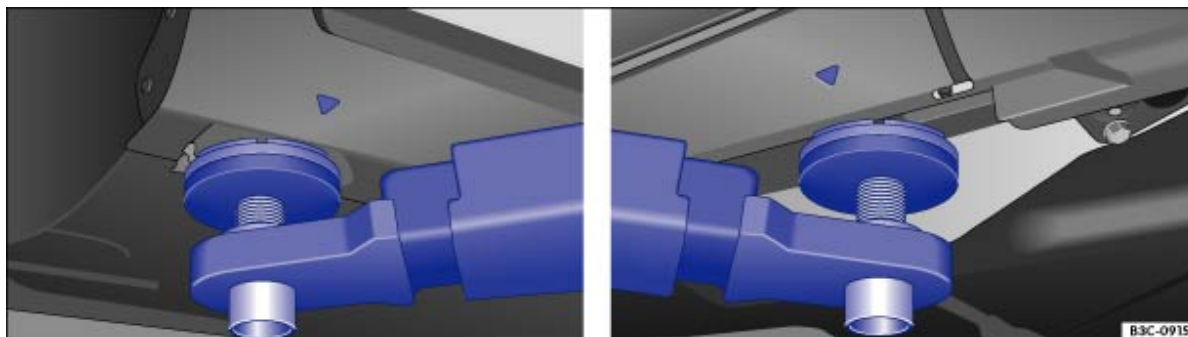
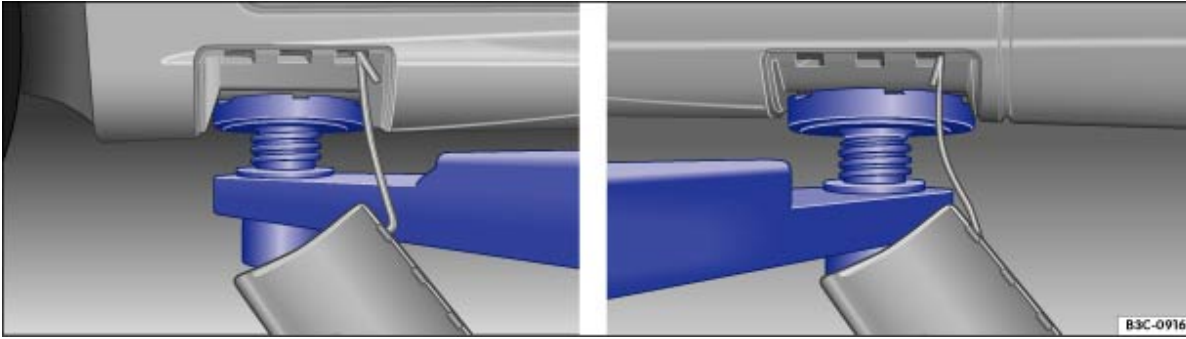

Fig. 208 Raising with lifting platform: lifting points on vehicles without covers
Fig. 209 Raising with lifting platform: lifting points on vehicles with covers
The vehicle may only be lifted at the points shown in the illustrations → Fig. 208 and → Fig. 209. If the vehicle is not raised on the lifting points shown, the vehicle could be damaged → . There is also a risk of serious injury → .
- The vehicle should only be lifted at those points indicated in the illustrations → Fig. 208 and → Fig. 209. If the vehicle is not lifted at the points shown, it could fall off the lifting platform when work is carried out, for example, when the engine or gearbox is removed.